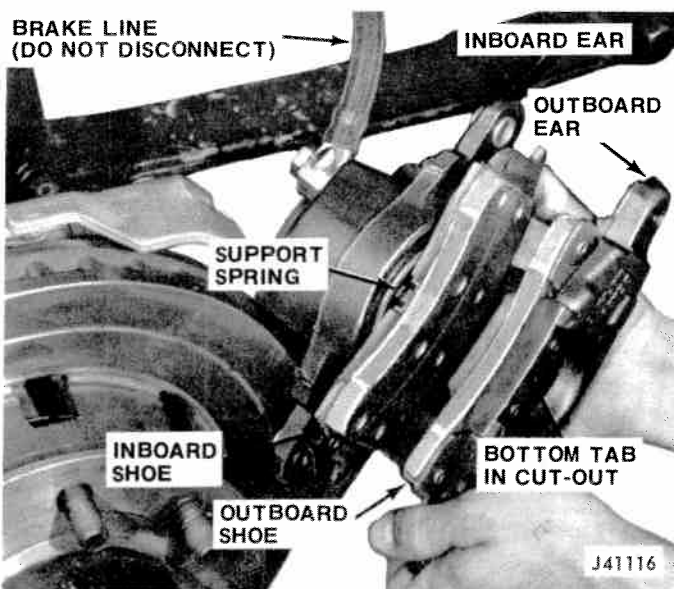
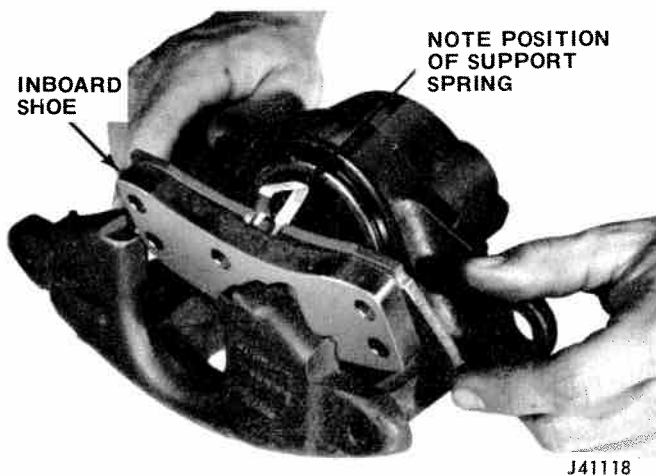

Fig. 9-41 Caliper Removal
Fig. 9-43 Installation of Inboard Shoe
(12) Install inboard shoe in caliper (fig. 9-43). Shoe must lay flat against piston. Be sure support spring is fully seated in piston (fig. 9-41).
(13) Install outboard shoe in caliper. The ears on the shoe should rest on top of the ears in the caliper. The bottom tab on the shoe fits in the cutout in the caliper. Be sure shoe is fully seated (fig. 9-41).